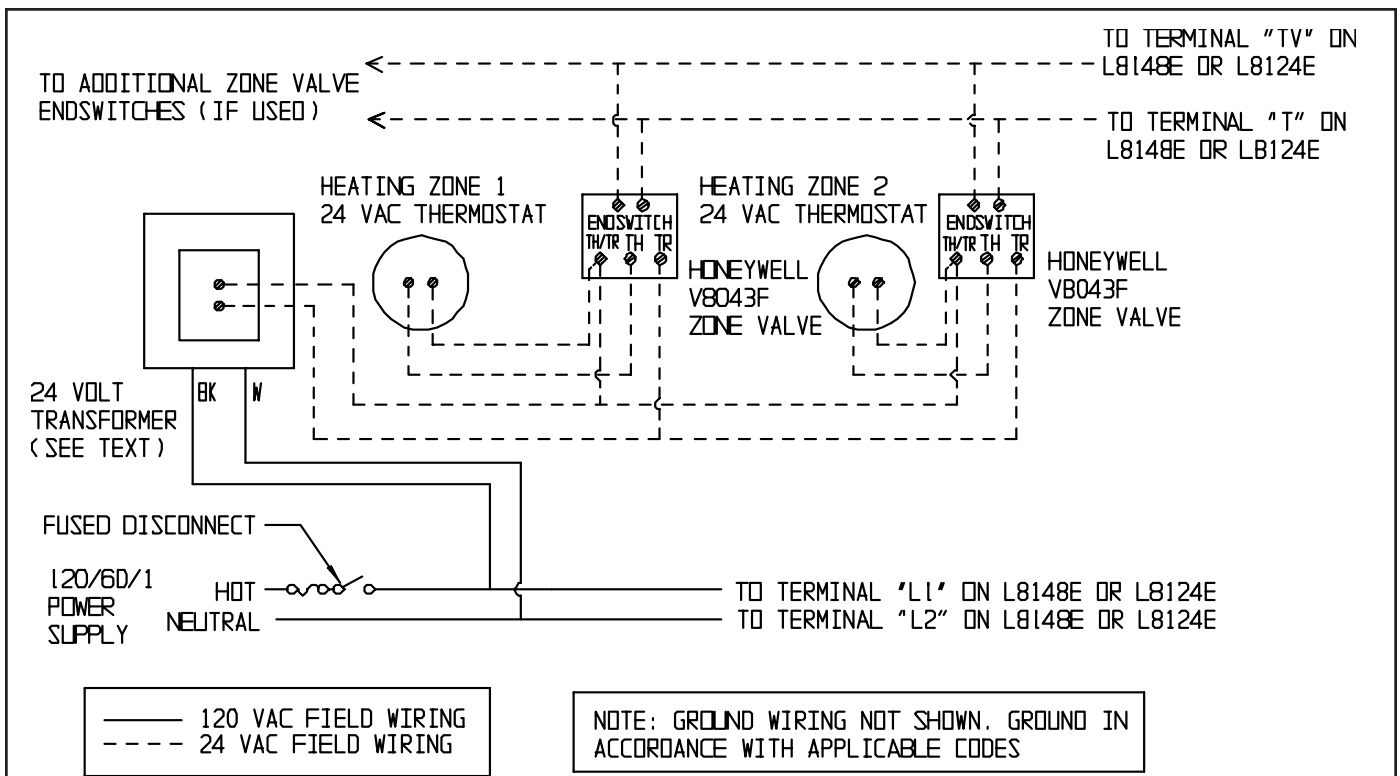

FIGURE 23: ZONE WIRING USING HONEYWELL V8043F ZONE VALVES
- 2) Multiple Zones using Zone Valves – Figure 23 shows wiring for multiple zones using Honeywell V8043F zone valves. This wiring diagram may be used for other 24-volt zone valves as long as they are equipped with end switches. Do not attempt to use the transformer on the limit control to power the zone valves; use a separate transformer. Up to five V8043Fs may be powered by one 48VA transformer, such as the Honeywell AT87A.